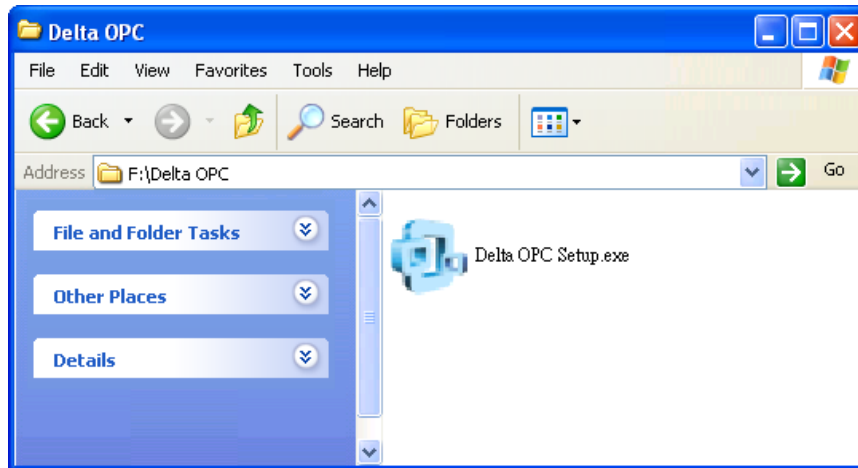

Figure 1-1 Installing Delta OPC
- (1) Users can download the latest Delta OPC from the Delta official website (<http://www.deltaww.com/>). Delta OPC can be installed only after it is decompressed. The contents of the folder which is decompressed are as shown in figure 1-1. If an old version of Delta OPC has been installed on a computer, the users have to uninstall it before installing a new version of Delta OPC. (Please refer to section 1.2.3 for more information about uninstalling Delta OPC.) After the users double-click Delta OPC Setup.exe, Delta OPC will be installed.